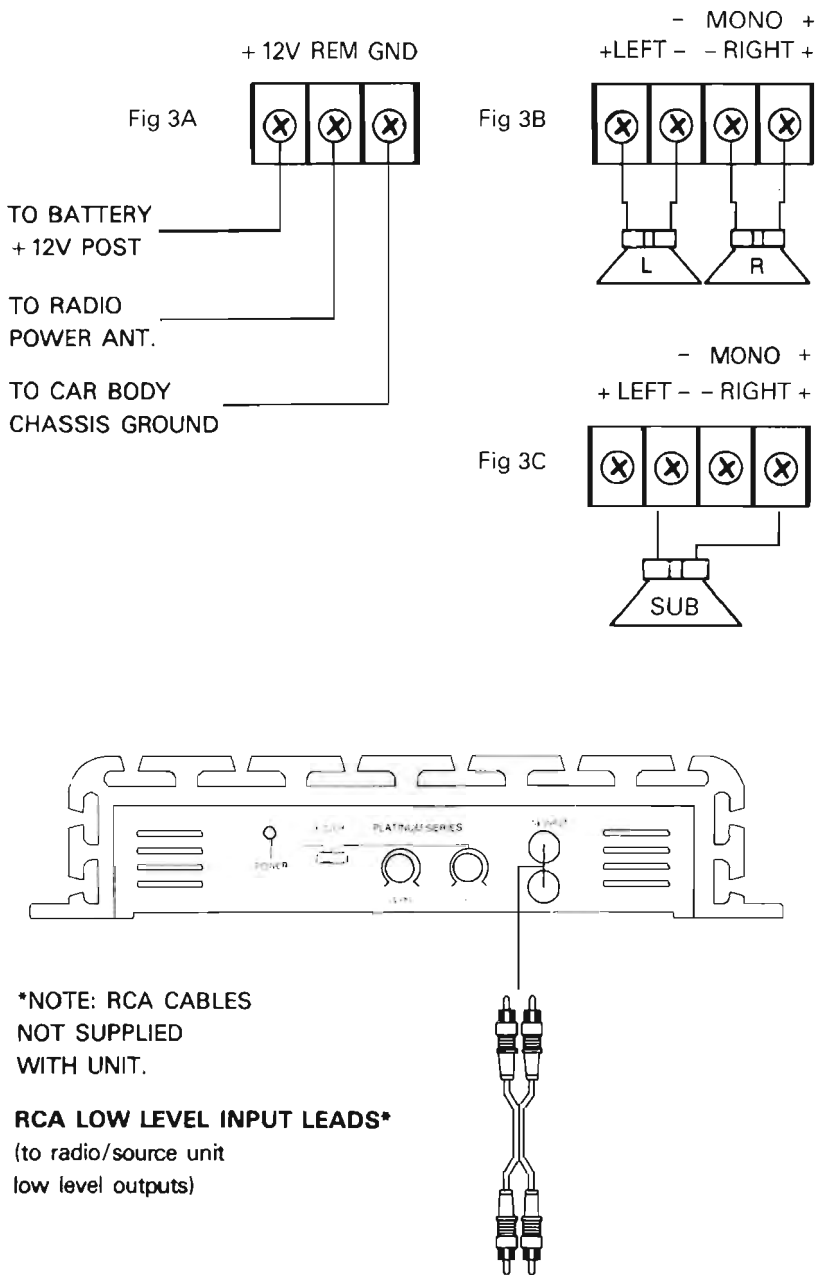

Figure 3. WIRING DETAILS
1. Line Inputs. These are driven by the line outputs of your indash radio or intermediate signal processor. Separate Left and Right signals can be applied for Stereo or Mono operation but both inputs must be driven with the same signal for proper Bridged operation. If only one mono signal is available, a "Y" adapter is required as shown in Figure 3.
6. The Power Input and Control Terminals. See Figure 3 - Wiring Details.
WIRING DETAILS (See Figure 3)
- **Signal Input Connections.** Left and Right Line Level Input Signals are applied to the Line In Phono Jacks (See Figure 3). These are normally taken from the Line Out jacks of the indash radio or intermediate signal processor such as a passive equalizer. Extension cables with phono plugs on both ends are required. These can be purchased in a variety of lengths at any audio shop at nominal cost.
Speaker Connections. The details depend on which of the three Output Modes you will use. Figure 3 shows the proper speaker and input connections for the Stereo and Bridged Mono Mode using the Low Input jacks.